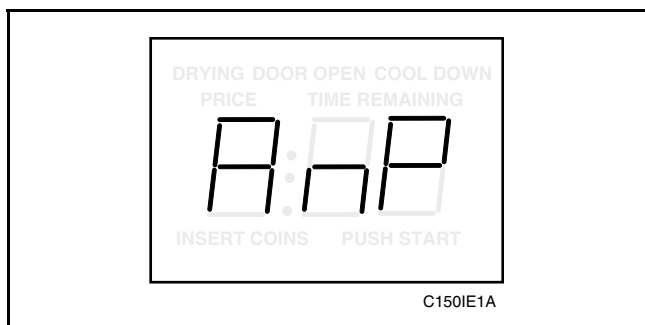

Figure 20
3. Press the LOW TEMP (+) pad or the NO HEAT (-) pad to scroll through the programmable options until “AnP” appears in the VFD, *Figure 20*.